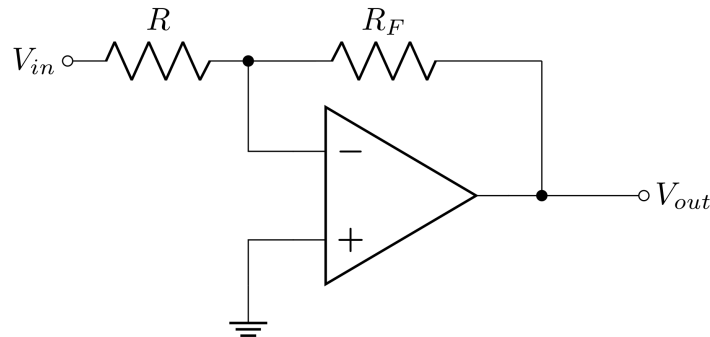
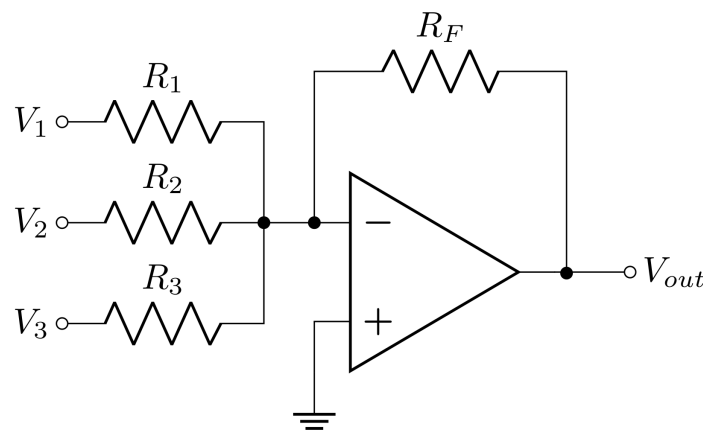
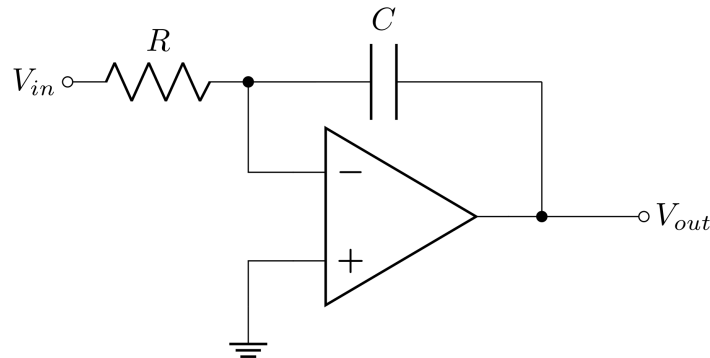

Figure 1: Inverting amplifier
Figure 2: Summing amplifier
Figure 3: Integrator
The basic inverting amplifier is shown in Figure 1. We can use the Golden Rules to determine the low-frequency gain. Since the positive input is grounded, the op-amp will do everything it can to keep the negative input at ground as well. In the limit of infinite open loop gain the inverting input of the op-amp is a virtual ground, a circuit node that will stay at ground as long as the circuit is working, even though it is not directly connected to ground. When ***A is infinite***, the gain of an inverting amplifier is
The Summing Amplifier, shown in Figure 2, is a very flexible circuit based upon the standard inverting op-amp configuration that can be used for combining multiple inputs. The standard inverting amplifier, shown in Figure 1, has a single input voltage, V_{in} , applied to the inverting input terminal. If we add more input resistors to the input, the circuit can become a voltage adder with different gain for each input. There are many applications for summing amplifiers including audio mixers and digital to analog converters. Using the Golden Rules we can determine the transfer function listed below.
The basic op-amp integrator is shown in Figure 3. As compared to the inverting amplifier in Figure 1, the only change is a replacement of the feedback resistor R_F with a capacitor C . An integrator is the same circuit as a low-pass filter. If you are interested in what frequencies get passed, you call it a low-pass filter. If you are interested in integrating the input signal, you call it an integrator. We can understand how the integrator works by applying the Golden Rules and remembering the defining equation for capacitors. Just as in the integrating amplifier, the Golden Rules tells us that $V_- \approx V_+ = 0$ and that the current across both components is the same because no current flows into the op-amp. We label I_R as the current through the resistor, which is V_{in}/R since V_- is at ground. We label I_C as the current across the capacitor. The defining equation for capacitors is $Q = CV$. The current through a capacitor is $I = dQ/dt = d(CV)/dt = C dV/dt$. Therefore, the equation $I_R = I_C$ becomes:
1. Calculate the values of low frequency gain G_0 and the bandwidth f_B for the inverting amplifier in Figure 1 for the following circuit you will build in lab with the following resistors: $R_F = 10\text{ k}\Omega$
1. Design a three input summing amplifier (Figure 2) that can create an analog voltage of integers from 0 to -7 volts ($|V_{out}| = 0, 1, 2, 3, 4, 5, 6, \text{ and } 7\text{ V}$) using only two possible input states on each input ($V_{low} = 0\text{ V}$ and $V_{high} = 1\text{ V}$). Draw a schematic of your circuit and label all the resistors. *Hint: Write down the binary numbers from 000 binary = 0 in decimal to 111 binary = 7 in decimal. Think about the relative values of R_1 , R_2 , and R_3 . We suggest you use $R_F = 40\text{ k}\Omega$.*
1. Design an integrator based on Figure 3 and the discussion above. Choose values for the components (resistors and capacitors) and describe why you chose those values.
1. Build the inverting amplifier shown in Figure 1, with $R_F = 100\text{ k}\Omega$ and $R = 10\text{ k}\Omega$. Measure R and R_F with the DMM before inserting them into the circuit board. Predict G_0 and f_B from these measured values and the op-amps value of f_T from the data sheet. (You should be able to review your prelab work here!)
1. Modify your basic inverting op-amp circuit to make it a summing amplifier as shown in Figure 2.